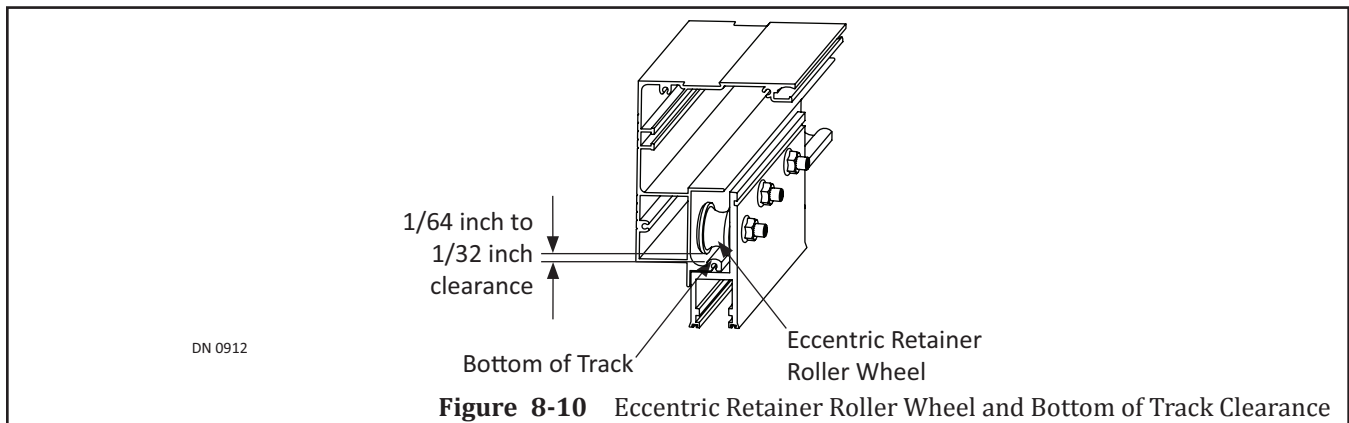

Figure 8-10 Eccentric Retainer Roller Wheel and Bottom of Track Clearance
1. Loosen (2) Eccentric Retainer Rollers located at the edge of Carrier. Please refer to Subsection 8.e.a.
2. Turn the Axle clockwise until there is a 1/64 inch to 1/32 inch gap between the Roller Wheel and the Bottom Track. Please see Figure 8-10.